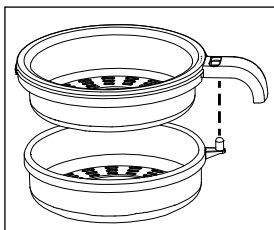

Fig. 1
- ◆ If necessary, unwind the connecting cable from the cable retainer ⑫.
- ◆ Place the base ⑪ on a dry and level surface.
- ◆ Assemble the sieve attachment ④/⑤. To do this, place the two parts on top of each other in such a way that the selector switch ⑥ juts through the corresponding opening of the upper part ④ (Fig. 1). Push the two sections together until they click together.